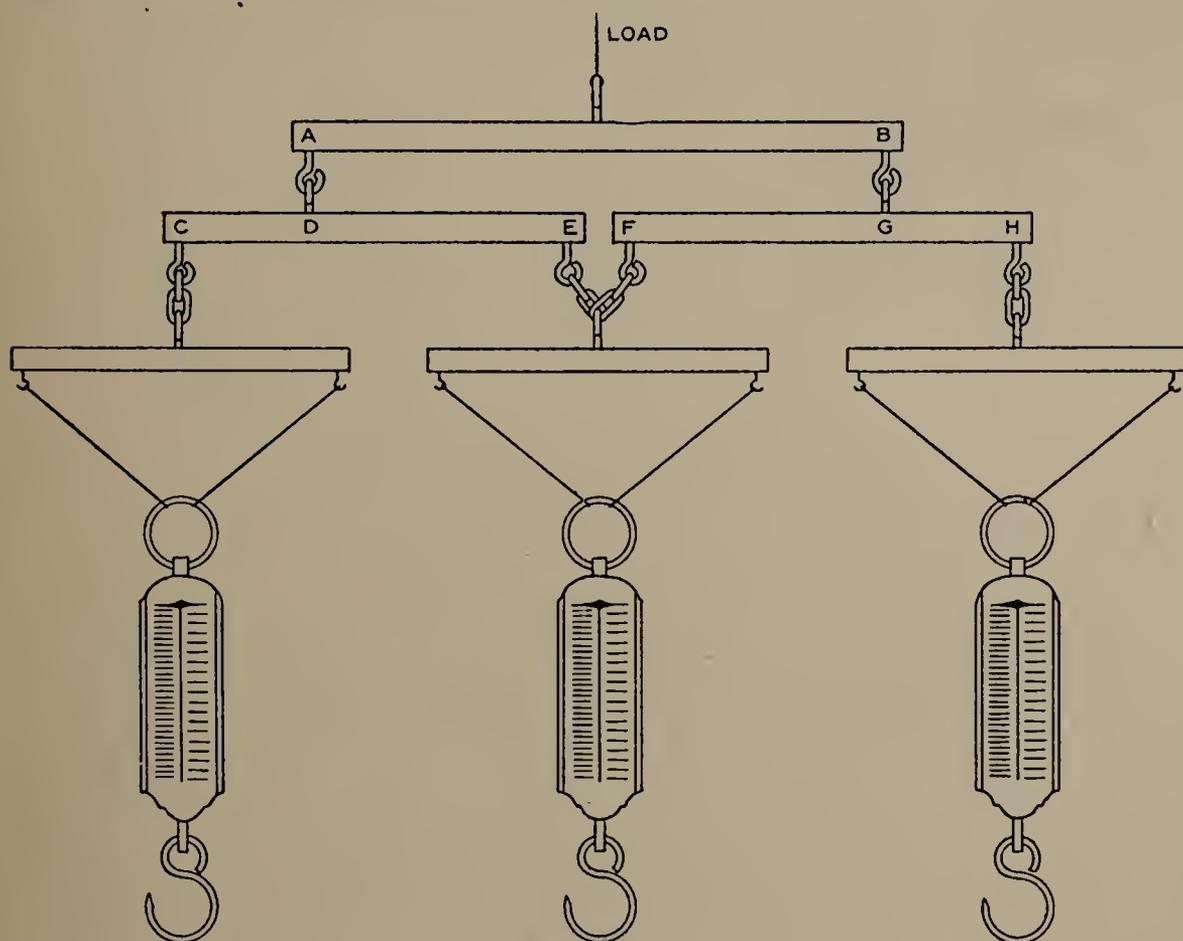

FIG. 31.
(a) Arrange the small whiffletrees as shown in Fig. 31,
*Materials Required.*—Spring balances; small whiffletrees which may be easily made by the pupil merely by connecting sticks with strong cord or small chains and screw-hooks, using the relative dimensions shown in Fig. 31 in which  $DE = 2CD$  and  $FG = 2GH$ . Twelve inches would be a convenient length for  $CE$ .